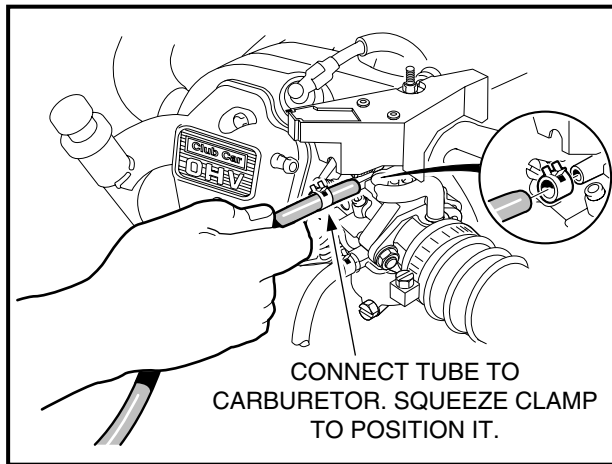

FIGURE 10-104
26. Connect the overflow tube to the carburetor and secure it with the hose clamp (**Figure 10-104**).